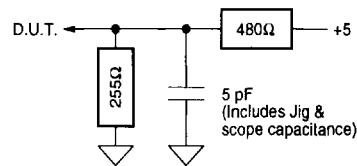

Figure 1b. Output Disable Timing Load
- Transition is measured ±500 mV from steady-state voltage with load of Figure 1B. This parameter is sampled rather than 100% tested. At any given voltage and temperature, t_{CHZ} max is less than t_{CLZ} min for a given device and from device to device.